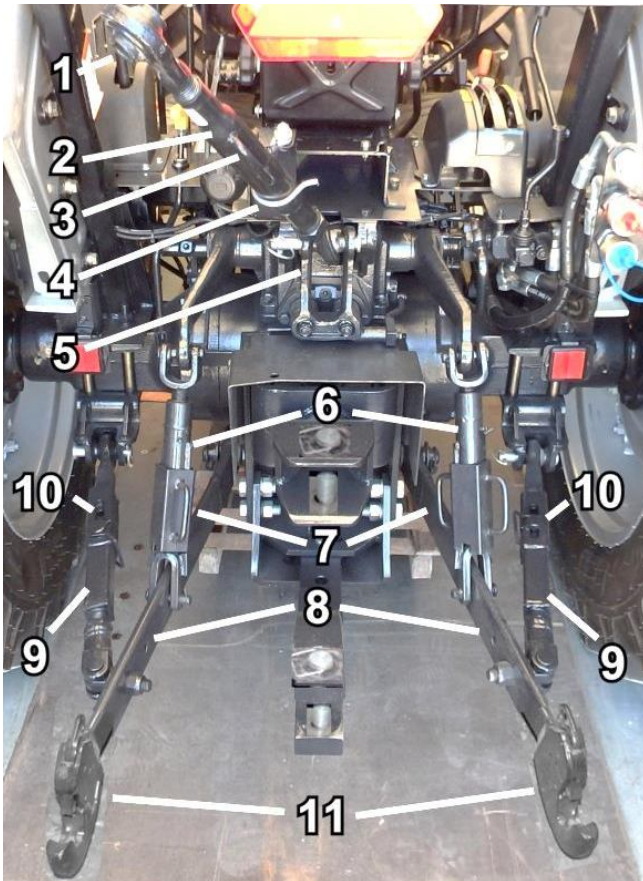

Fig. 4.6.1. Three-point linkage
The tractor hydraulic lift system with three-point linkage (see Fig. 4.6.1 and 4.6.3) facilitates control of implements and machines from operator's place.
- move back the tractor to the implement aligning the ends of lower links (11 - Fig. 4.6.1) with the implement hitch pins,
- depending on the implement, attach the top link (2 - Fig. 4.6.1) to a selected hole of the lift rocker and then to the implement cross shaft adjusting its length as necessary,